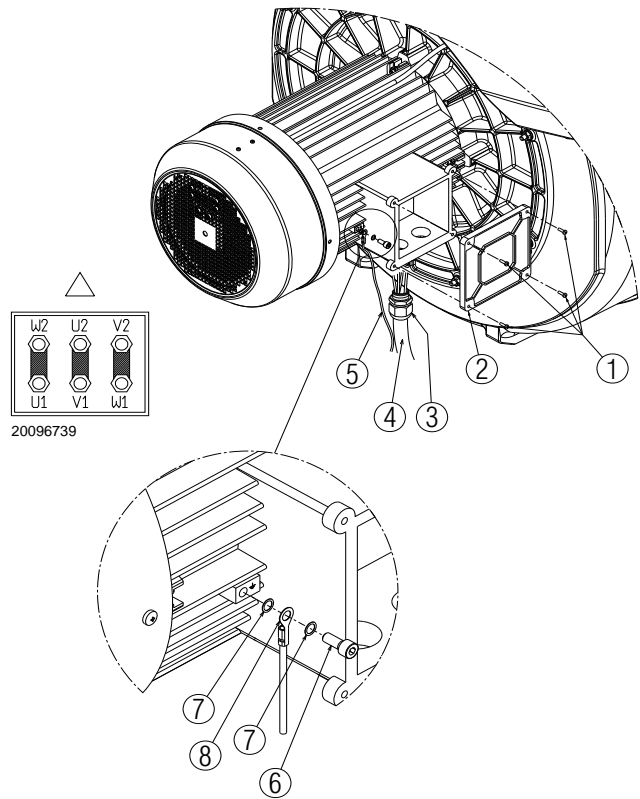

Fig. 34
- to access the motor casing, loosen the four screws 1)(Fig. 34) and remove the cover 2).
- Make a final visual check, then close the motor casing by tightening the 4 screws 1)(Fig. 34).